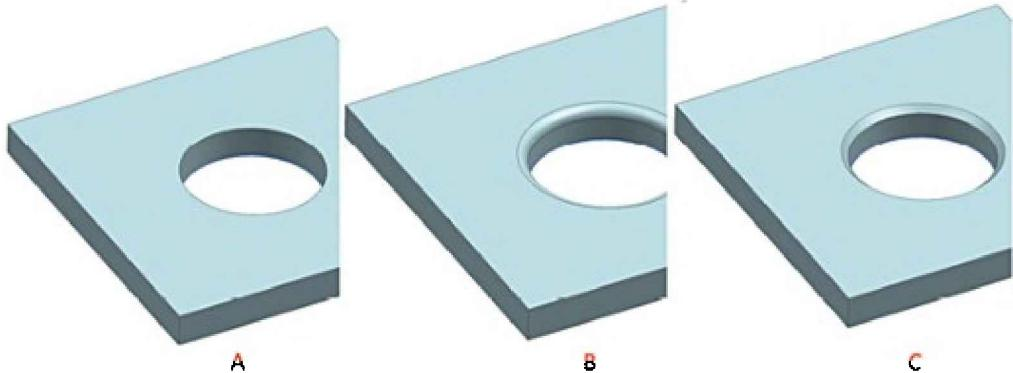

Figure 6.11. Perforated plate edge types: A. Sharp edge. B. Rounded edge. C. Bevelled edge
- *Thin Perforated Plate* is the tool that allows to calculate the head loss coefficient from specified plate perforation parameters. To describe the plate, select a type to represent *Orifice Geometry*. The edges of the holes can be rounded (*Rounded Edge*), sharp (*Sharp Edge*), or conical (*Beveled Edge*). For sharp edges (Figure 6.11, A), only the ratio of the internal cross-section area to total cross-section area (F_{open}/F_{total}) is specified as the *Free Aspect Ratio*. For rounded edges (Figure 6.11, B), you can specify the rounding radius (*Edge Radius*), the diameter of the internal cross-section (*Orifice Hydraulic Diameter*), and the ratio of internal cross-section area to total cross-section area (*Free Aspect Ratio*). For beveled edges (Figure 6.11, C), you can specify the same parameters and an additional *Plate Thickness parameter*. After that, in all cases, you need to calculate the loss coefficient. To do so, click **Compute**.